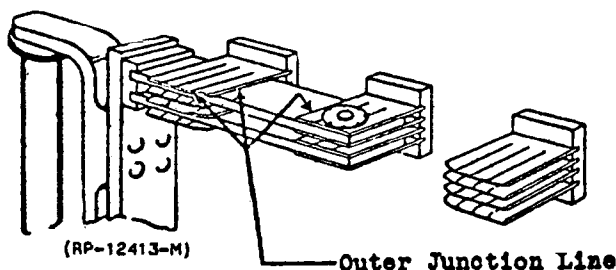

FIG. 4 ILLUSTRATING JUNCTION LINE BETWEEN SWITCH BLADE AND CLIP (PAR. 6.22)
- 6.22 Switch clips of switches rated 30 amperes and above shall refuse a .0015" feeler gauge around at least the following percentages of the accessible outer junction line, with the switch in the closed position. See Figure 4. Use R-3022 feeler gauge.